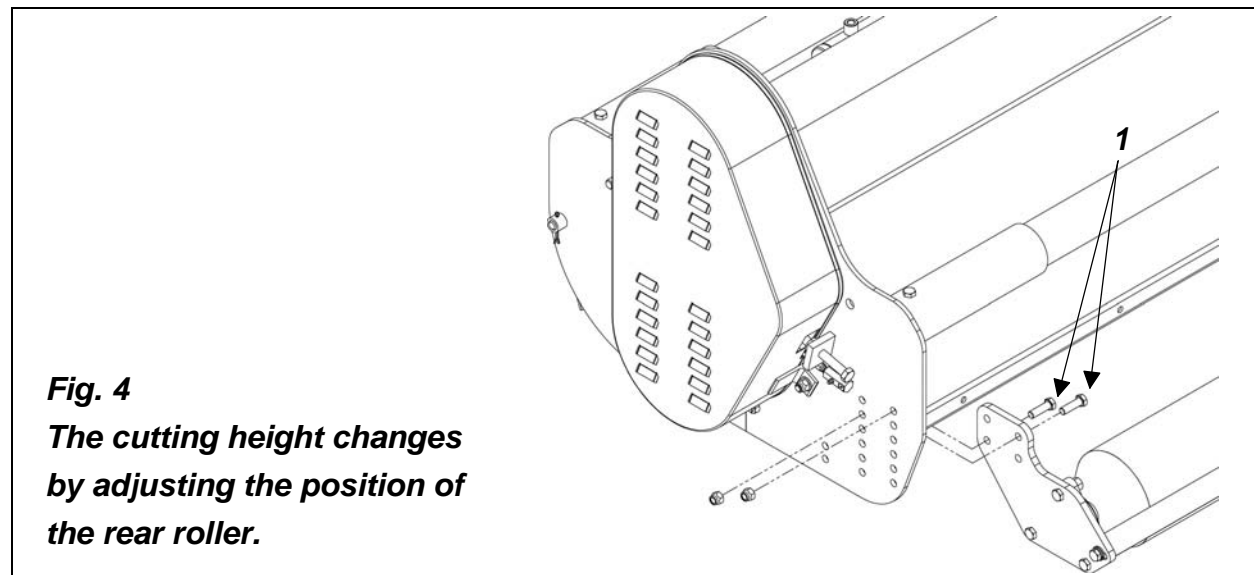

Fig. 4
The cutting height is the distance from the blades to the ground. It is changed by adjusting the position of the rear roller (see fig. 4). All shredders are equipped with a roller scraper that helps keep the roller clean and the cutting height consistent.
To change the cutting height do the following (see fig. 4):
1. Unbolt and remove the 4 bolts, 2 on each side, (see #1, fig. 4) that secure the roller height position.